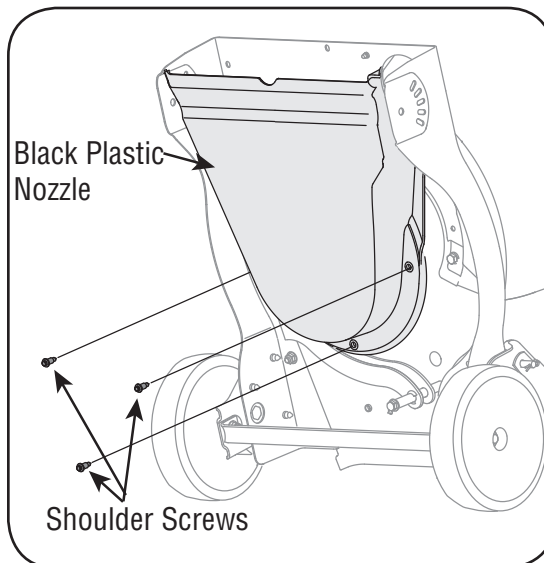

Figure 5-6
7. Carefully tilt and support the unit up to provide access underneath to the nozzle mounting hardware and impeller. Remove the three shoulder bolts securing the black plastic lower flail housing to the lower housing. Refer to Figure 5-6.